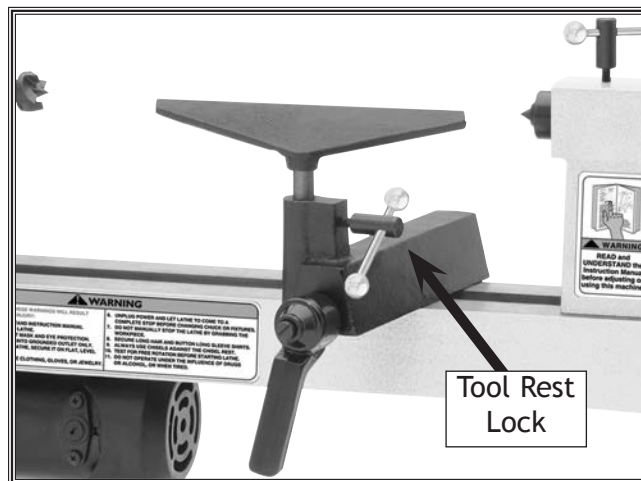

Figure 12. Tool rest installed on lathe bed.
1. Insert the tool rest into the tool holder as shown in **Figure 12**.